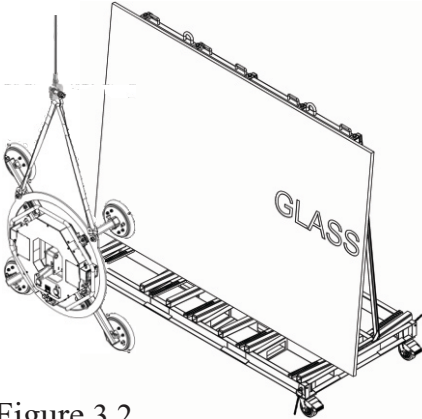

Figure 3.2
**Step 3:** Move the lifer close to the lifted glass (Figure 3.2)